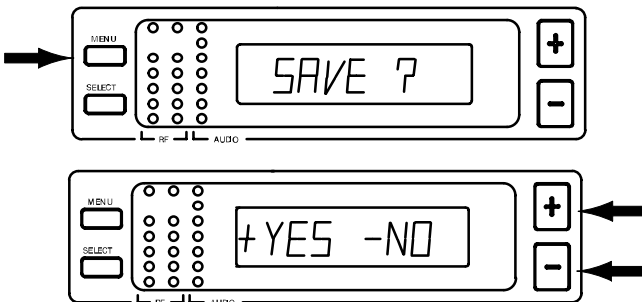
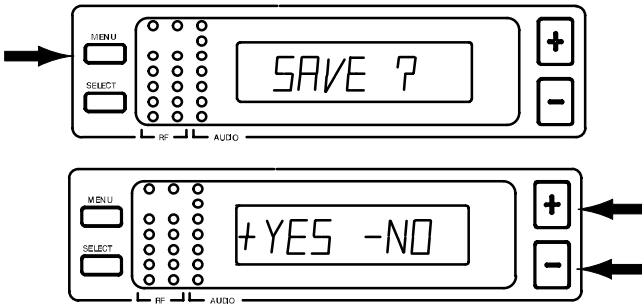

FIGURE 15
FIGURE 20
7. When the new Group/Channel has been completely entered, press the MENU button. “SAVE?” appears on the display, followed by “+ YES – NO”. Press the “+” button to save the new Group/Channel setting or press the “-” button to return to the original setting. See Figure 15.
5. Press the MENU button to enter the desired frequency, as shown in Figure 15. SAVE? appears on the display, followed by "+ YES – NO". Press the "+" button to save the new frequency, or press the "-" button to return to the original setting. See Figure 20.